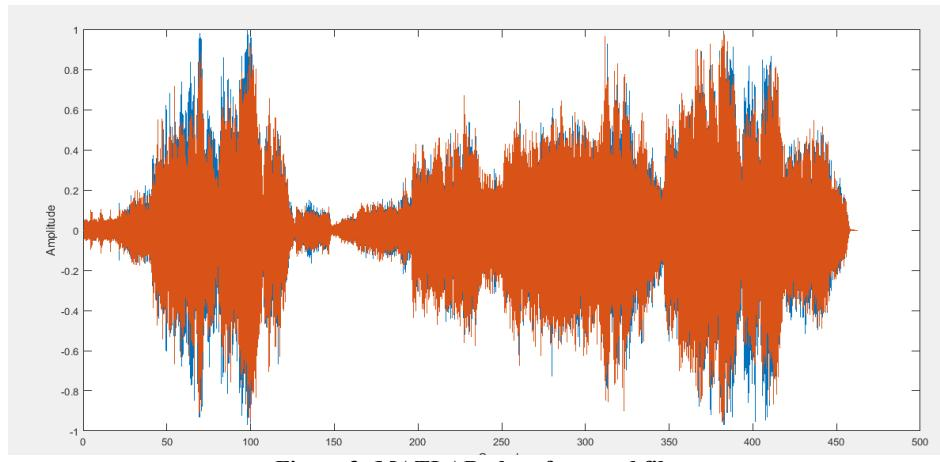

Figure 3: MATLAB plot of a sound file.
4. Plot your audio signal using the MATLAB plot command. Label the x and y axes appropriately (time and signal amplitude). See MATLAB help on plots for more details. Include this plot in your report. An example of such a plot is given in Figure 3. Note: Your plots will look different than this particular plot. Listen to the audio file and try to see if you can track the correspondence to your plot (where is your sound louder, softer?).